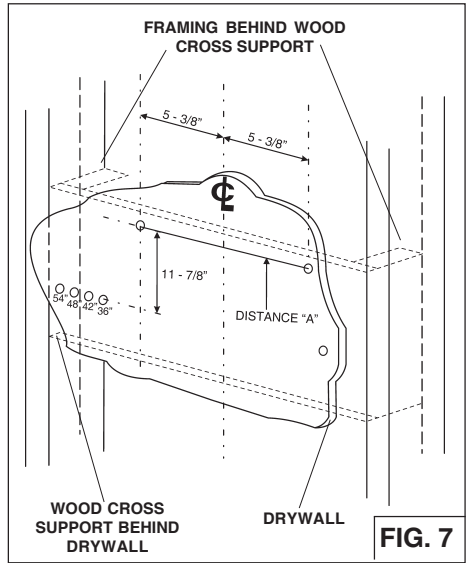

FIG. 7
1. Construct wood wall framing that is flush with interior surface of wall studs (Fig.7).
Mounting Bracket Center Hole Location Above 36" High Cook Top (in.) see Fig.7